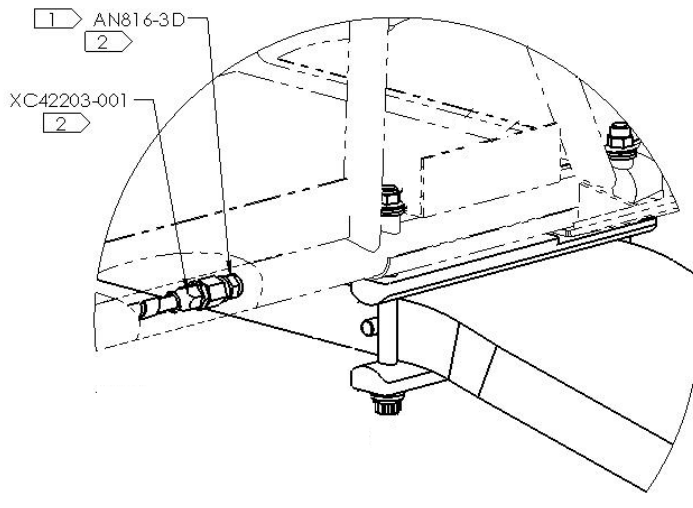

Figure 23 – Brake Fittings
35. If not done already, install the two AN316-3D fittings at front of gear leg and attach to existing brake lines (XC42203-001). See Figure 23.